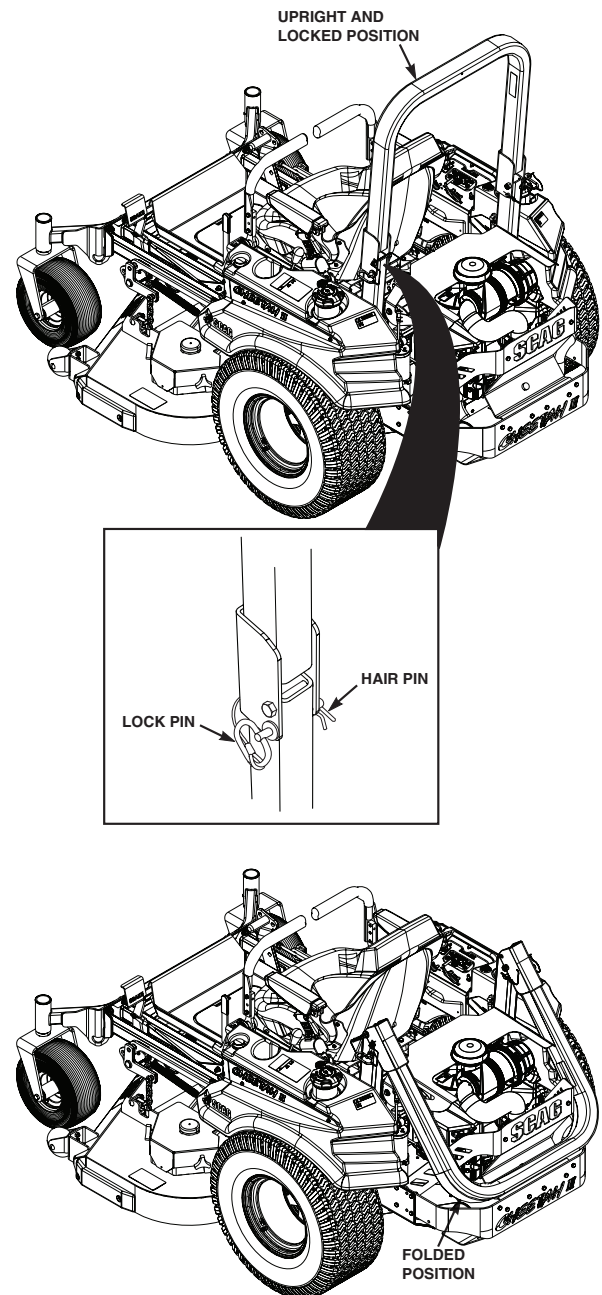

Figure 2-1. Foldable Roll-Over Protection System
1. To lower the roll bar, remove the hairpin cotter pins and remove the two (2) lock pins. See Figure 2-1.
2. Lower the roll bar to the folded position. See Figure 2-1.
4. Install the two (2) lock pins through the holes and secure with the two (2) hairpin cotter pins. See Figure 2-1.